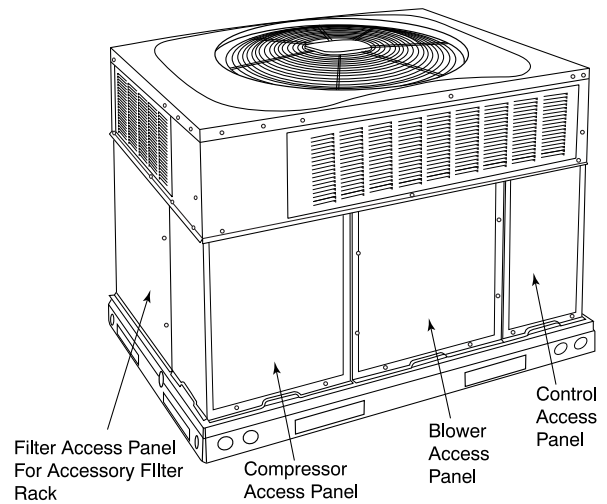
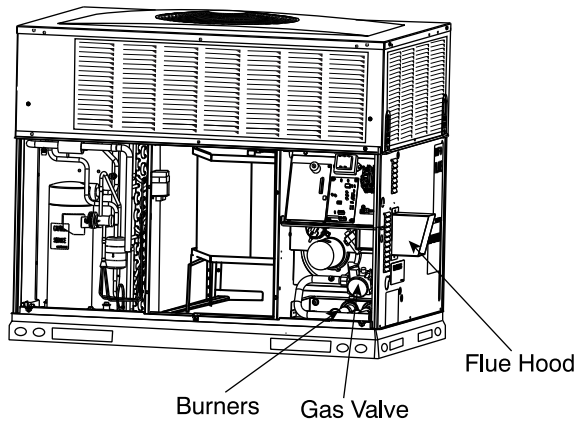
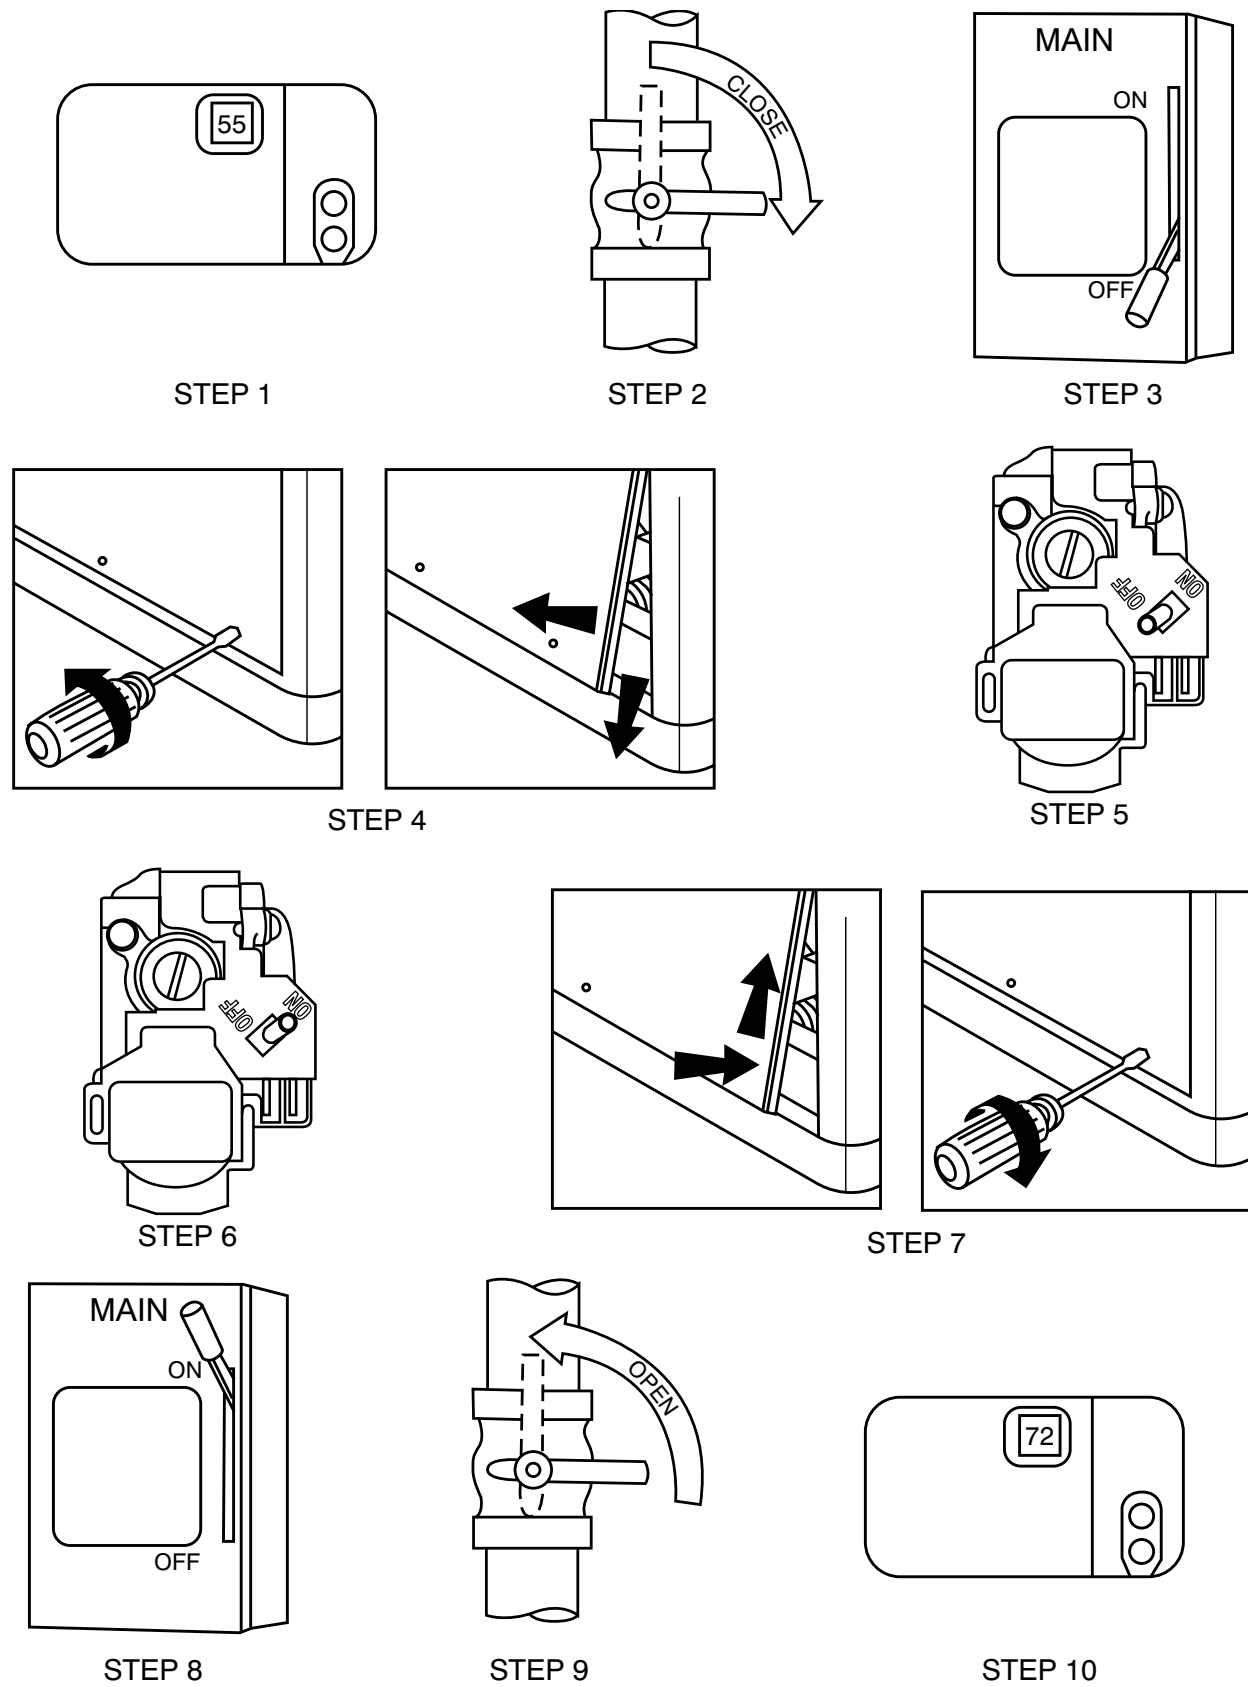

Fig. 2 – Unit Access Panel
Fig. 3 – Gas Heating/Electric Cooling Unit with Access Panel Removed ^{A14490}
Fig. 4 – To Start Unit Gas Heat
Refer to Fig. 2 for location of unit front access panel. Refer to Fig. 3 for location of gas valve. Refer to Fig. 4 while proceeding with the following steps.
4. Remove the control access panel with a 5/16-in. nut driver. (See Fig. 2.)
4. Remove the control access panel. (See Fig. 2.)
To replace or inspect filters in accessory filter rack (See Fig. 2):